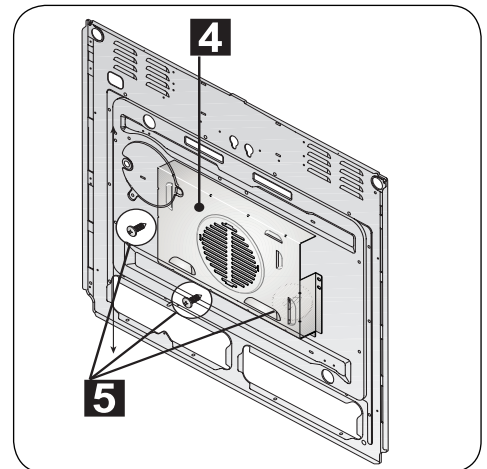

Fig. 11
- Remove back panel **4** by unscrewing respective locking screws **5** (fig.11).